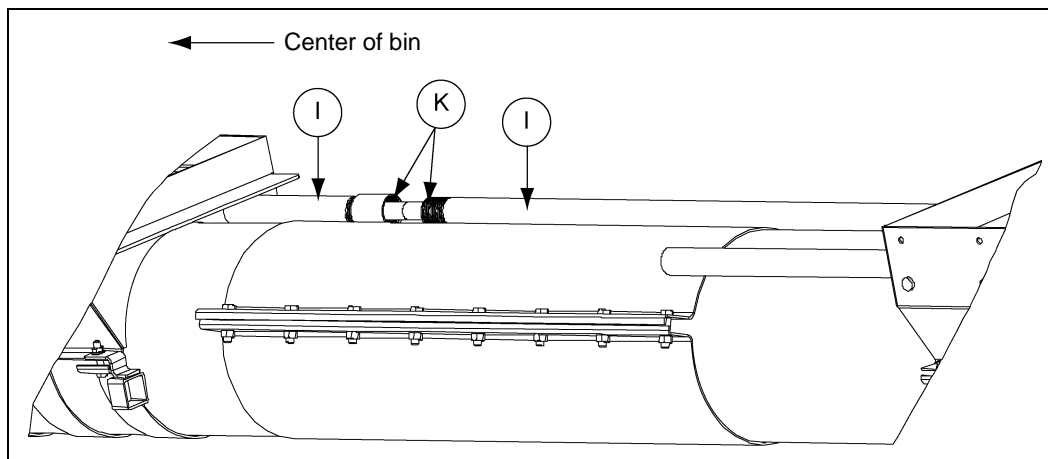

Figure 4M
6. Thread the other centerwell rod onto the 1/2" coupler and leave it slightly loose. Also thread the other intermediate rod onto the 1" coupler. (See Figure 4M.)